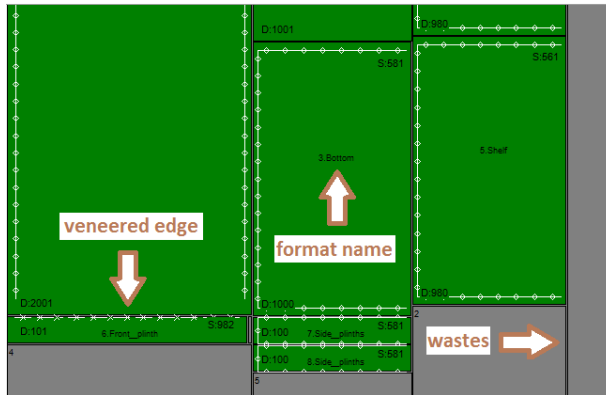

Fig. 79 – an example of 'View' options operation
- **'Show names of formats'** - displays names of arranged formats (Fig. 79);
- **'Show wastes'** - displays edges of produced wastes (Fig. 79);